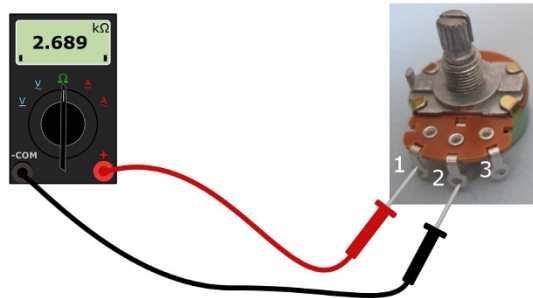

Figure 16-10: Connect the test leads to the first and center, center and third, and first and third terminals of the pot.
- With the meter leads applied to one fixed end (point 1) and the *wiper*, or variable lead (point 2), as shown in Figure 16-10, turning the dial shaft in one direction increases the resistance, and turning the dial shaft in the other direction decreases the resistance.